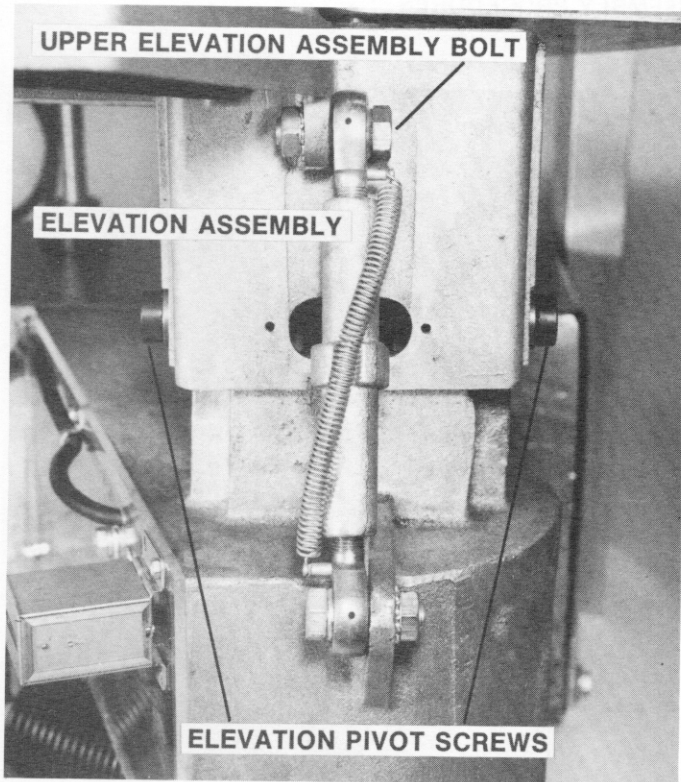

Figure 11 — Elevation Pivot Screws
- E. Remove upper elevation adjusting assembly bolt (see Figure 11).
- F. Remove both elevation pivot screws (see Figure 11).